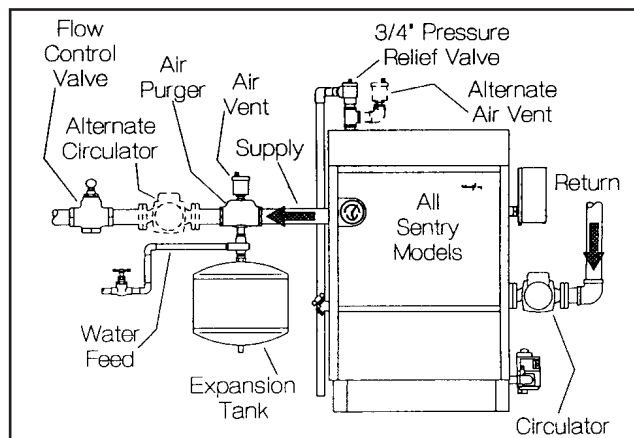

Figure 10. Piping Arrangement
- A. Packaged water boilers are equipped with a water circulating pump, mounted to return the water into the boiler. For some installations, the pump should be on the supply main. See figure 10.
- A. DIAPHRAGM-TYPE COMPRESSION TANKS are used to control system pressure in an AIR ELIMINATING SYSTEM: an automatic air vent is used to REMOVE air from the system water. See figure 8. If system pressure needs further control, add an additional tank or install a larger capacity tank. Locate the tank near the boiler, as illustrated. An automatic air vent should be installed in the top of the boiler or air purger. See figure 10.